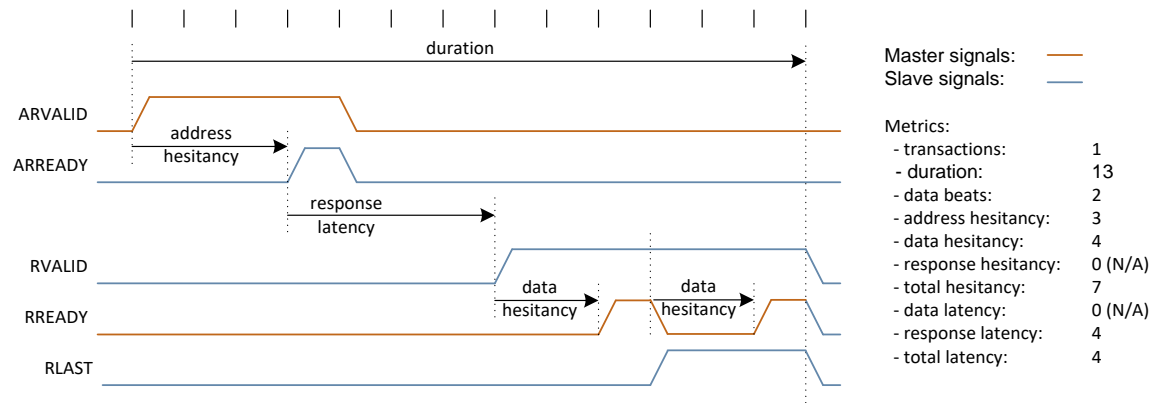
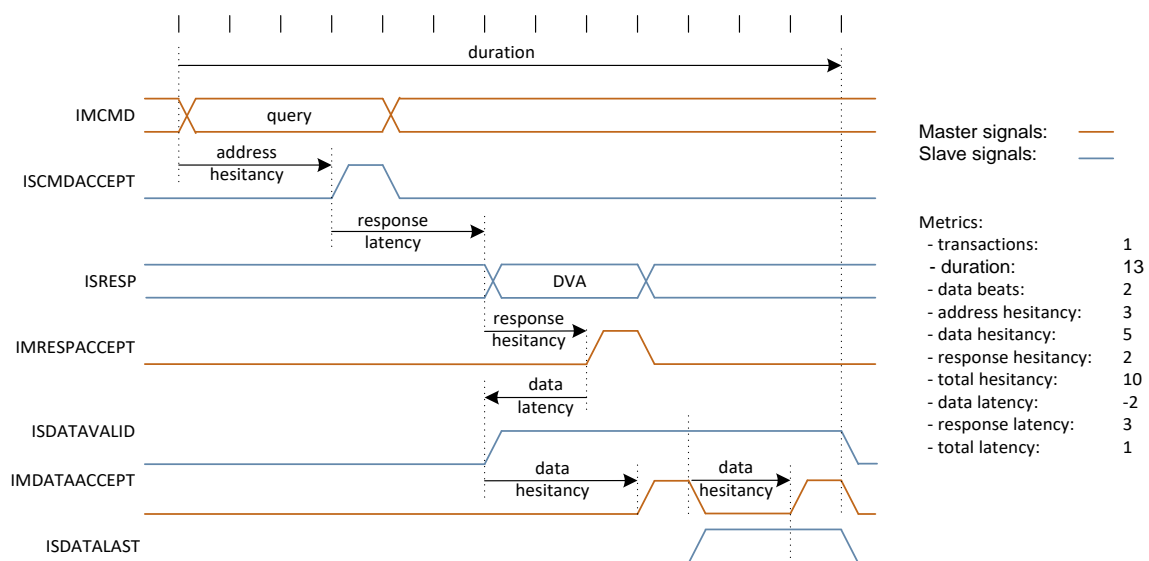

Figure 3-1 AXI read transaction metrics
Figure 3-6 OCP3 split transaction query metrics
These are illustrated in Figure 3-1 through Figure 3-6.
- Matching is not fully resolved until after metric counting has started. For example, measuring response latency for transactions that end with an error response. As can be seen from Figure 3-1 through Figure 3-6, the response latency occurs before the response is known, and the correct value will only be gathered if an ITA is used. Using direct accumulation, the counter will accumulate the response latency for all transactions, not just those that end with an error;